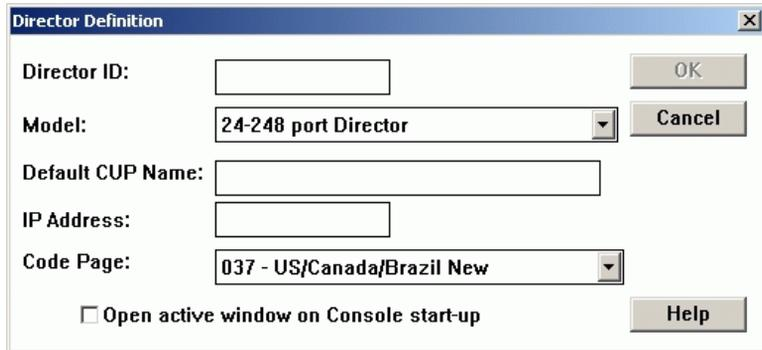

Figure 30 Director Definition Dialog Box
4. Click *New Director*. The *Director Definition* dialog box displays (Figure 30).